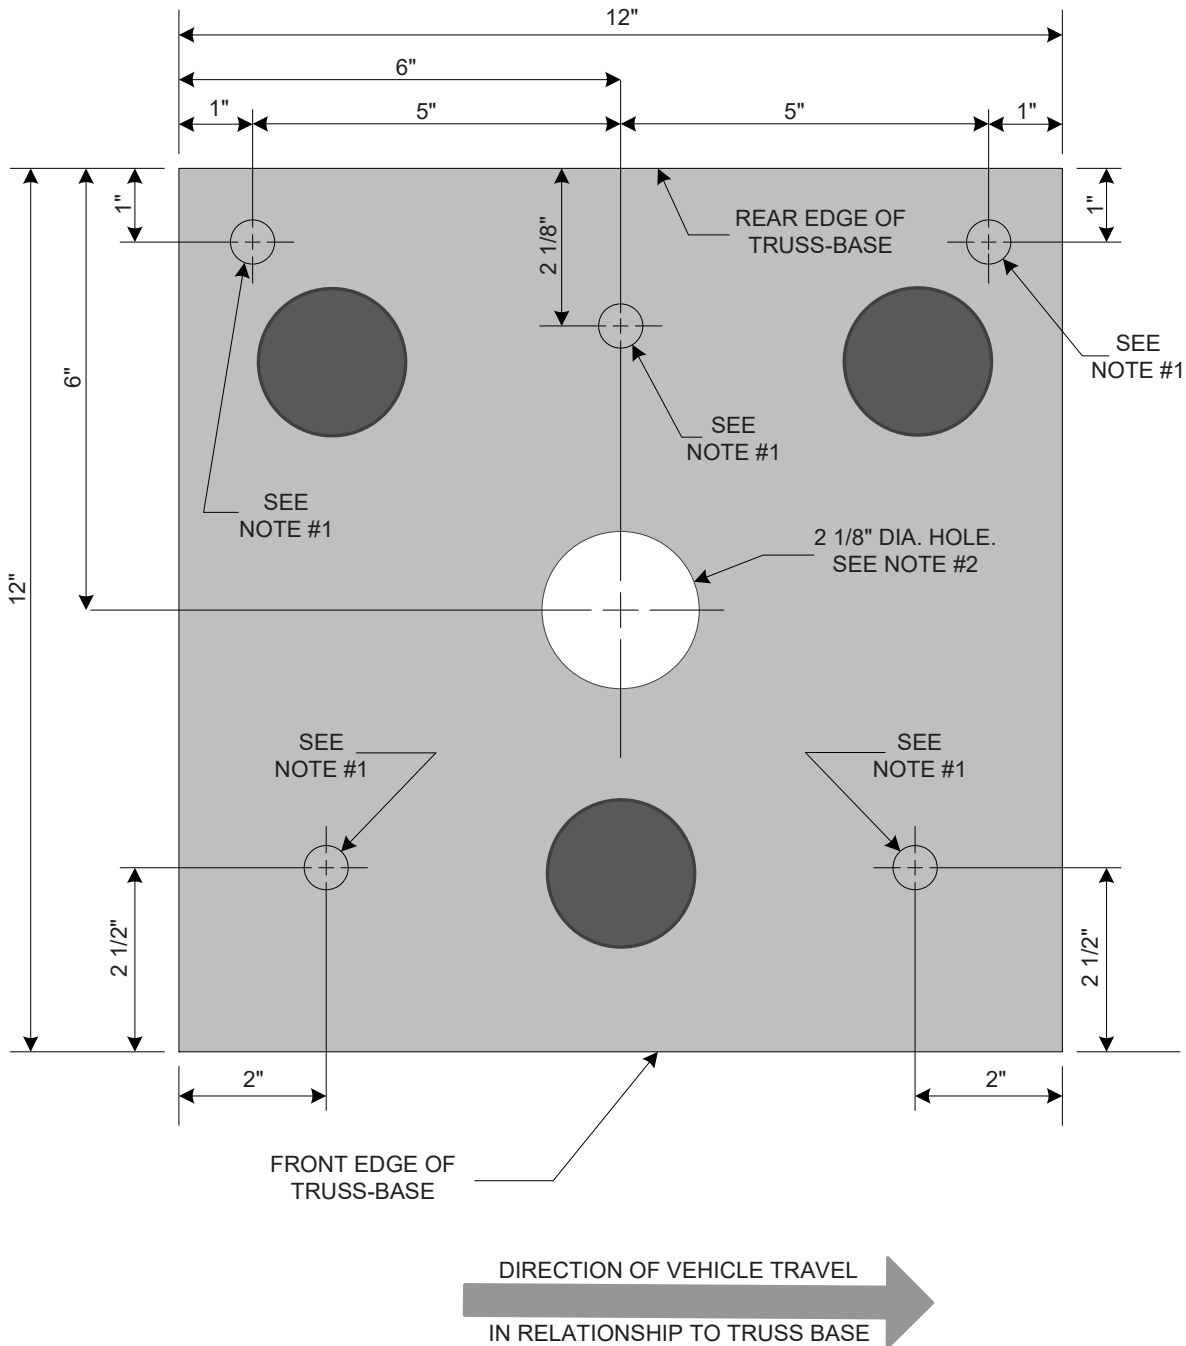

Figure 10. Truss Base Mounting Specifications
1. The three mounting holes that are adjacent to the rear edge of the truss base should always be furthermost away from the traffic lane and the vehicle. The two mounting holes adjacent to the front edge of the truss base should always be closest to the traffic lane and the vehicle. See Figure 10.
3. Using a hammer drill, secure the base of the truss to the concrete island with 1/2" dia. x 6"L concrete anchor bolts through each one of the mounting holes in the base of the truss. There are (5) truss-base mounting holes 9/16" in Diameter.